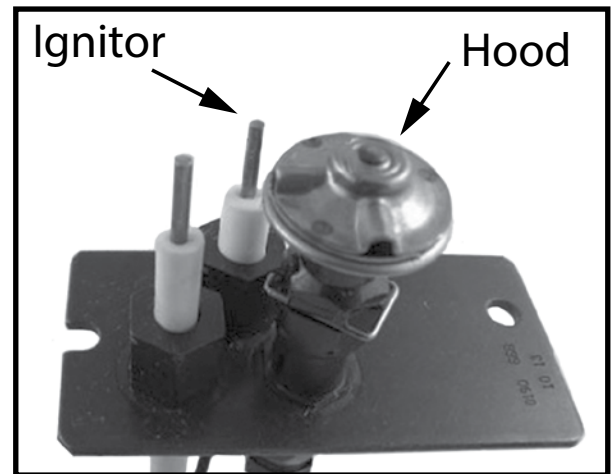

Figure 17: Esprit pilot assembly.ai
- b) Check the pilot system for proper flame size and operation. Clean pilot free (Figure 17) of soot, dust or any other deposits.